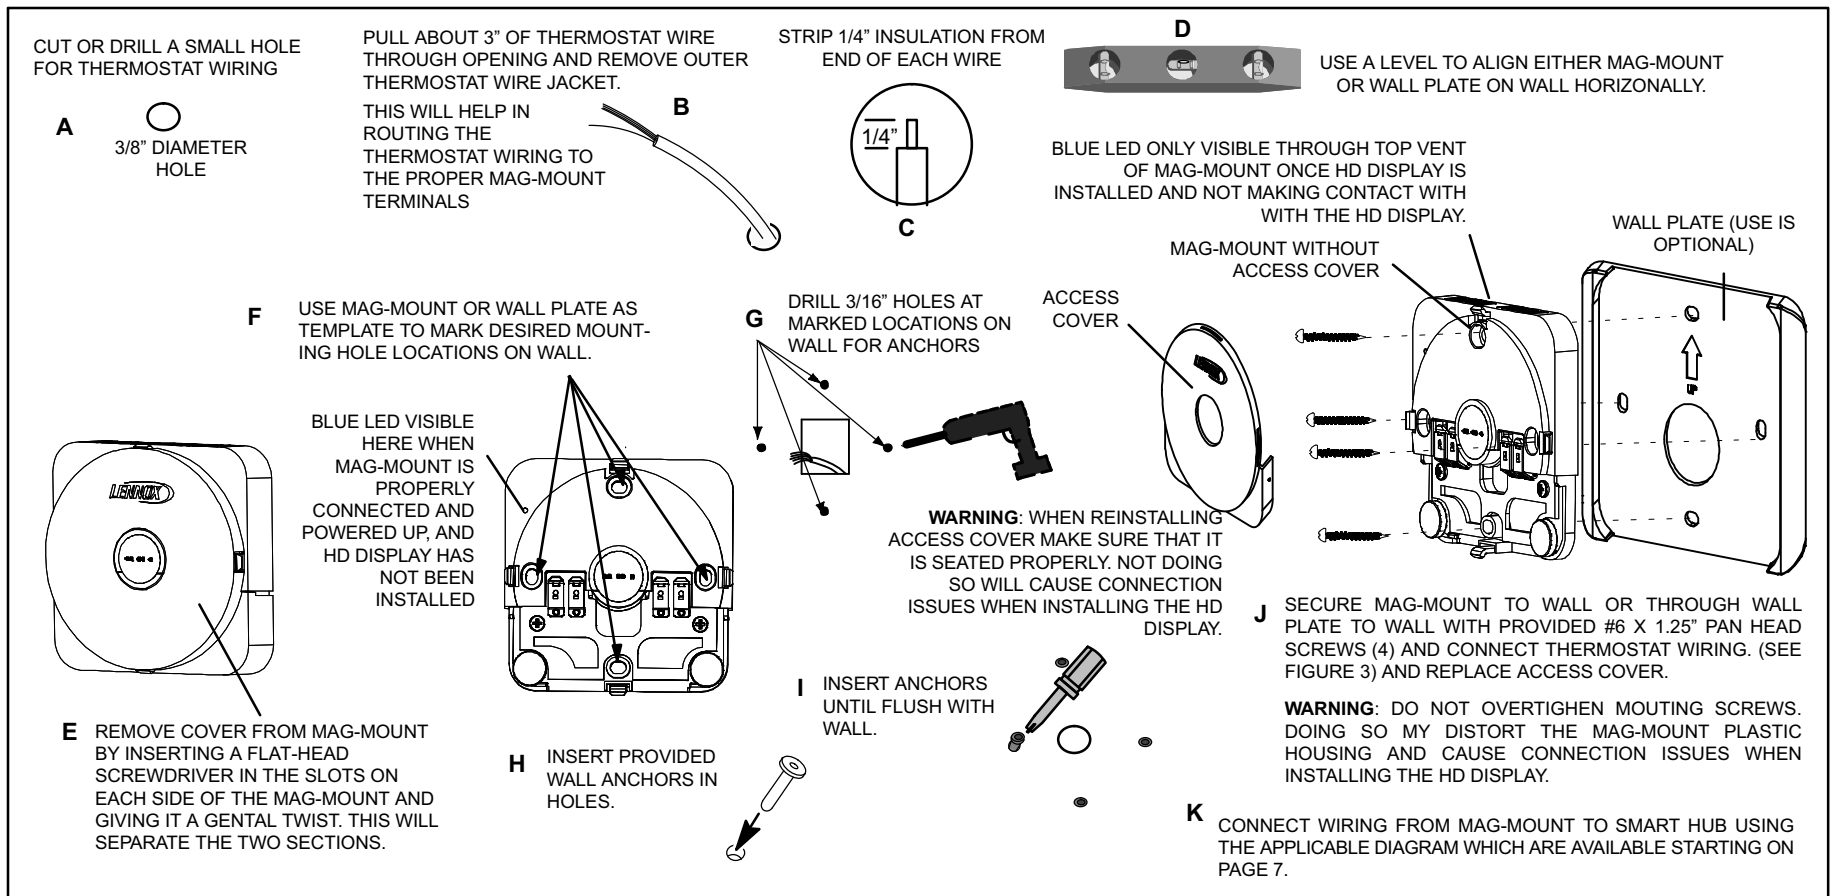

Figure 2. Mag-Mount Installation
2. Install Mag-Mount in desired location away from direct sunlight or any discharge vents. Use the procedures provided in figure 2, steps **A** through **J**.
**LED:** A blue LED is visible on the front of the Mag-Mount when it is connected, powered up, and the HD Display has not been installed (see figure 2, step **F**) or through the top vent of the mag-mount near the top-left corner. (see figure